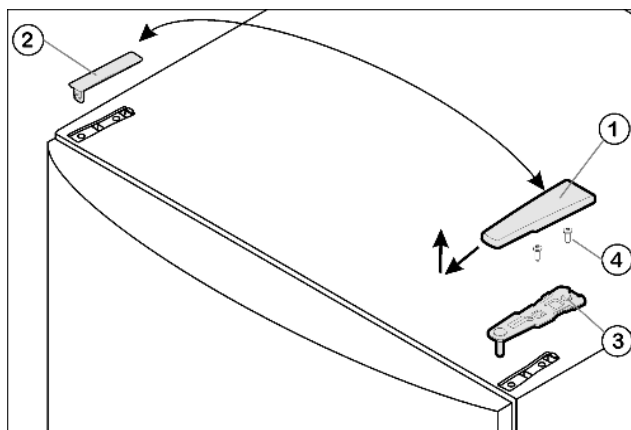

Fig. 4
- ▶ Pull off the cover Fig. 4 (1) forwards and upwards.
- ▶ Lift off the cover Fig. 4 (2)
- ▶ Unscrew the upper turn hinge Fig. 4 (3) (2 Torx 25) Fig. 4 (4) and raise it for removal.
- ▶ Insert the upper turn hinge *Fig. 4 (3)* in the door on the new hinge side.
- ▶ Screw down the upper turn hinge (2 Torx 25) *Fig. 4 (4)*. Possibly make preliminary holes with a bradawl or use a cordless screwdriver.
- ▶ Apply the cover *Fig. 4 (1)* and cover *Fig. 4 (2)* to the opposite side from the outside and snap them into place.